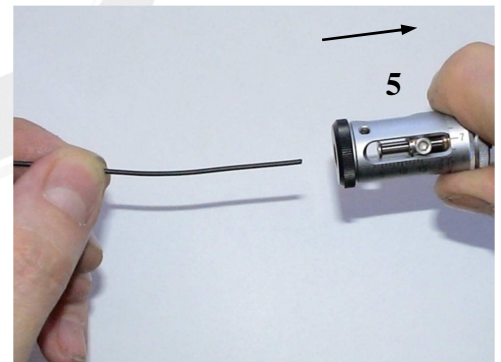

Fig. 4 Opening the blades
In case of diameters (<math><0.5\text{ mm}</math>) which are to be stripped very short (3 mm), the length setting ring gauge (2) should not be fixed in place, so that when the stripping head (5) is pulled back, the stripping blades can be opened fully (cleaning effect) (Fig. 4)
- Pull the stripping head (5) backwards up to the stopper. The four stripping blades are now fully open. (Fig. 4)